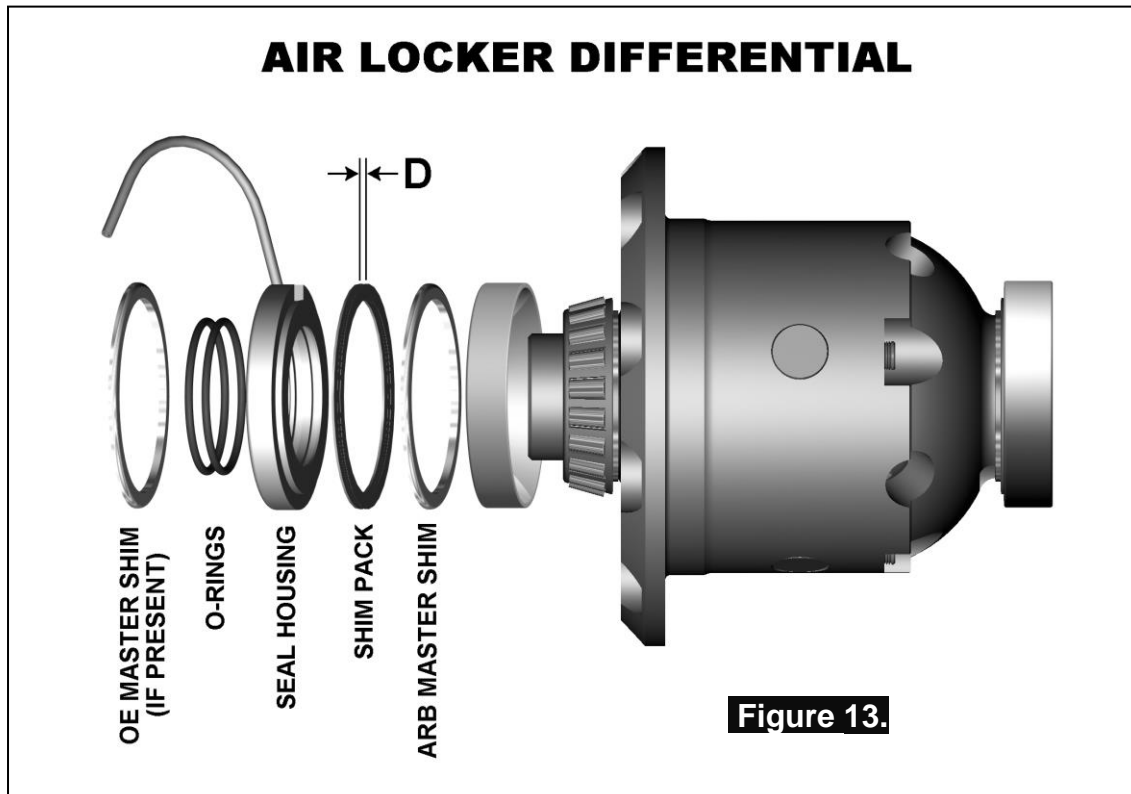

Figure 12.
- Tap the hole from the outside using a ¼" NPT pipe tap. (Figure 12.)